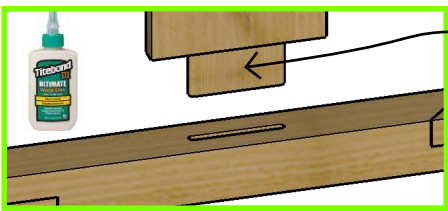
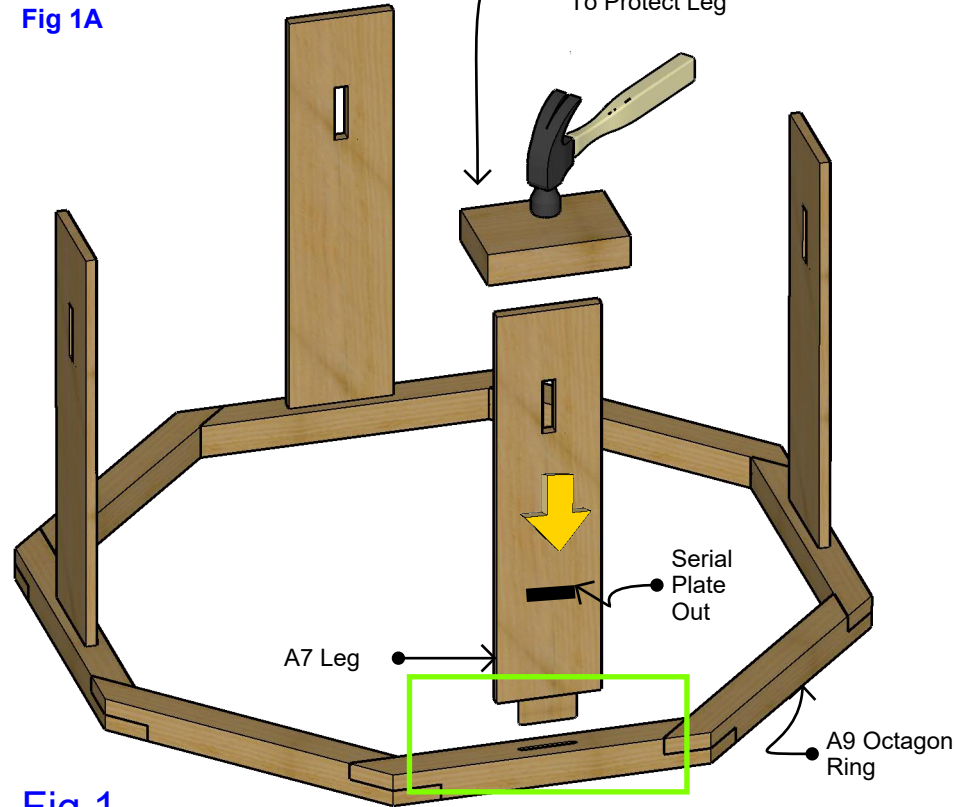

Fig 1A
Fig 1
**Fig 1 - Attach Legs To Octagon Ring:** Place **A9 Octagon Ring** upside down on a **hard flat surface**. Smear a layer of provided wood glue onto **A7 leg** as indicated in **Fig 1A** and using your hammer and provided block of wood and gently tap in all **4A7 Legs**. Wipe up any excess glue with a damp rag.